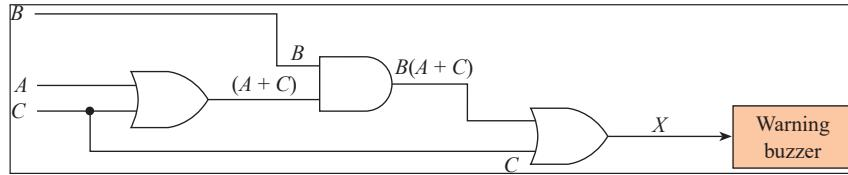

Figure 5.5: Summary of Boolean Algebra [\[2\]](#)
- We have some initial design shown in Figure 5.5